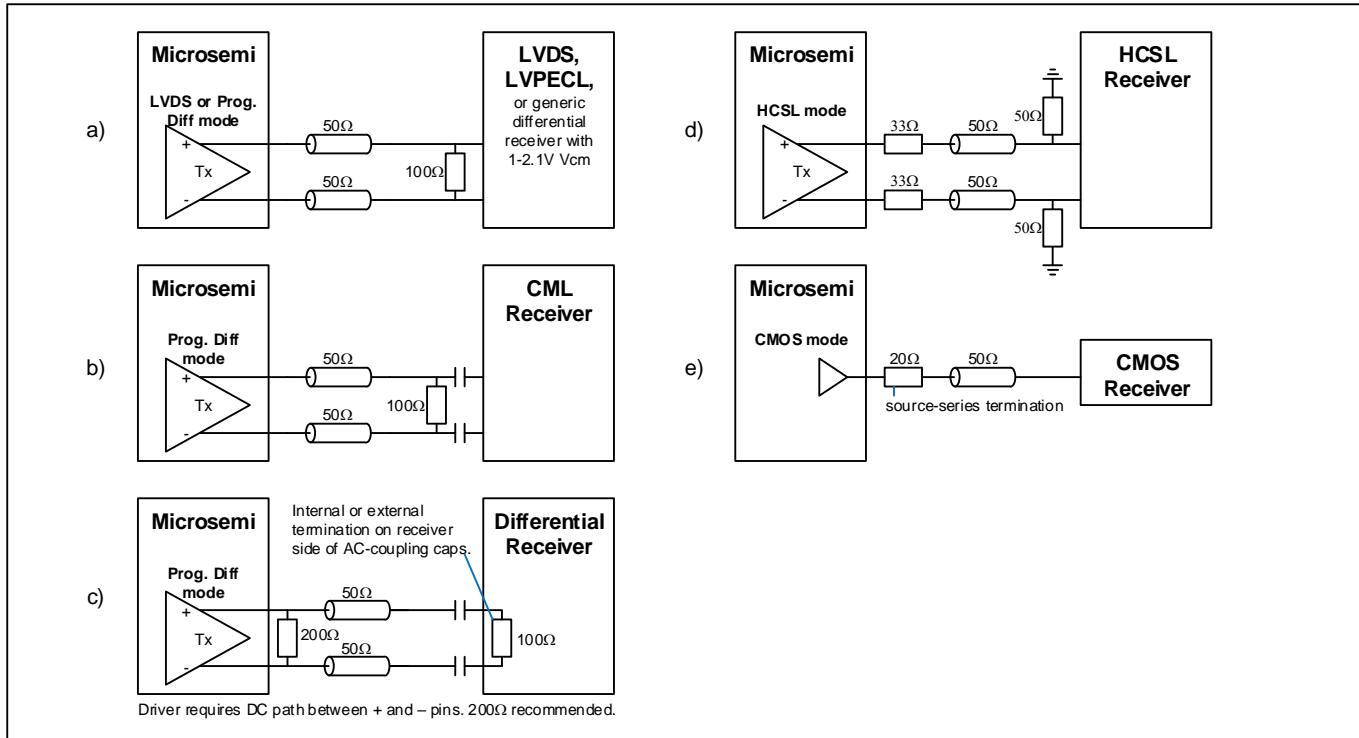

Figure 16 - Example External Components for Output Signals
**Note 1:** OCxCR2.OCsF=0001 (LVDS). Output must have 100Ω DC path between OUTxP and OUTxN to meet these  $V_{OD}$  specs. See Figure 16 parts a) and b) for examples where this DC path is a 100Ω termination resistor at the receiver
**Note 1:** OCxCR2.OCSF=0010, OCxDIFF.VCM=1100, OCxDIFF.VOD=0101. Output must have 100Ω DC path between OUTxP and OUTxN to meet these  $V_{\text{OD}}$  specs. See Figure 16 parts a) and b) for examples where this DC path is a 100Ω termination resistor at the receiver.
Figure 16 part c) covers the case where an existing receiver has AC coupling caps followed by an internal or external 100Ω termination resistor. The driver requires a DC path between its POS and NEG pins even in this case. A 200Ω resistor is recommended. Since this arrangement attenuates the signal by one third, the `OCxDIFF.VOD` field should be set 50% higher to compensate.